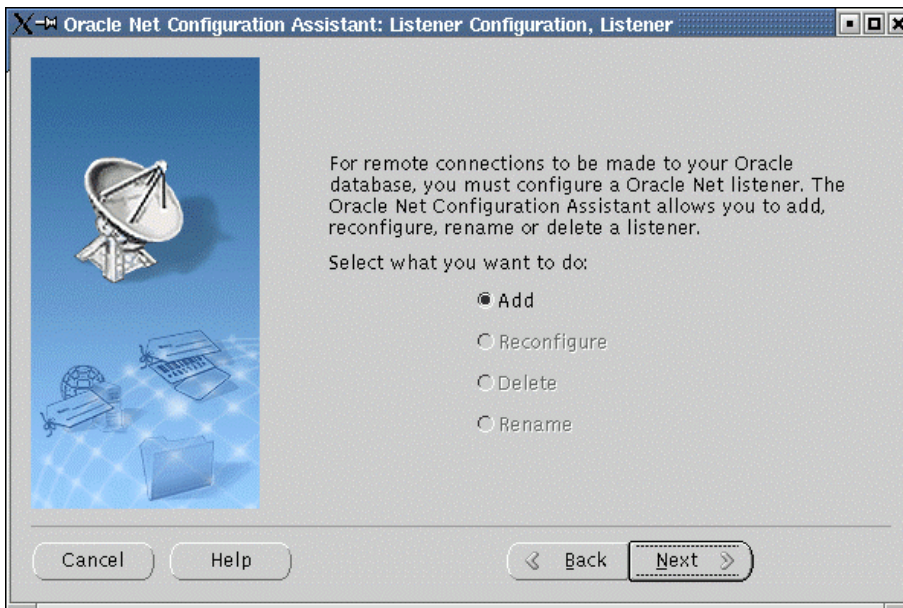

Figure 70. netca - listener configuration
- The Listener Configuration window is displayed (Figure 70). Select **Add** and click **Next** to continue.